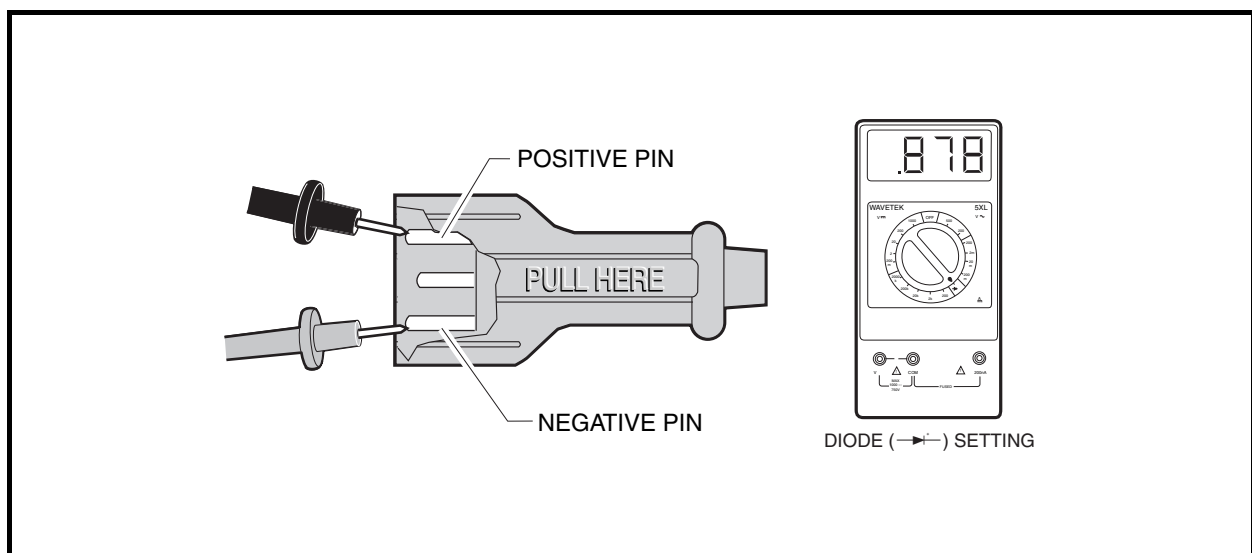

Figure 7-21 DC Plug Test – Probes Reversed
3. Reverse the test probes and check the DC plug again (**Figure 7-21, Page 7-22**). The multimeter should indicate approximately 922 mV.